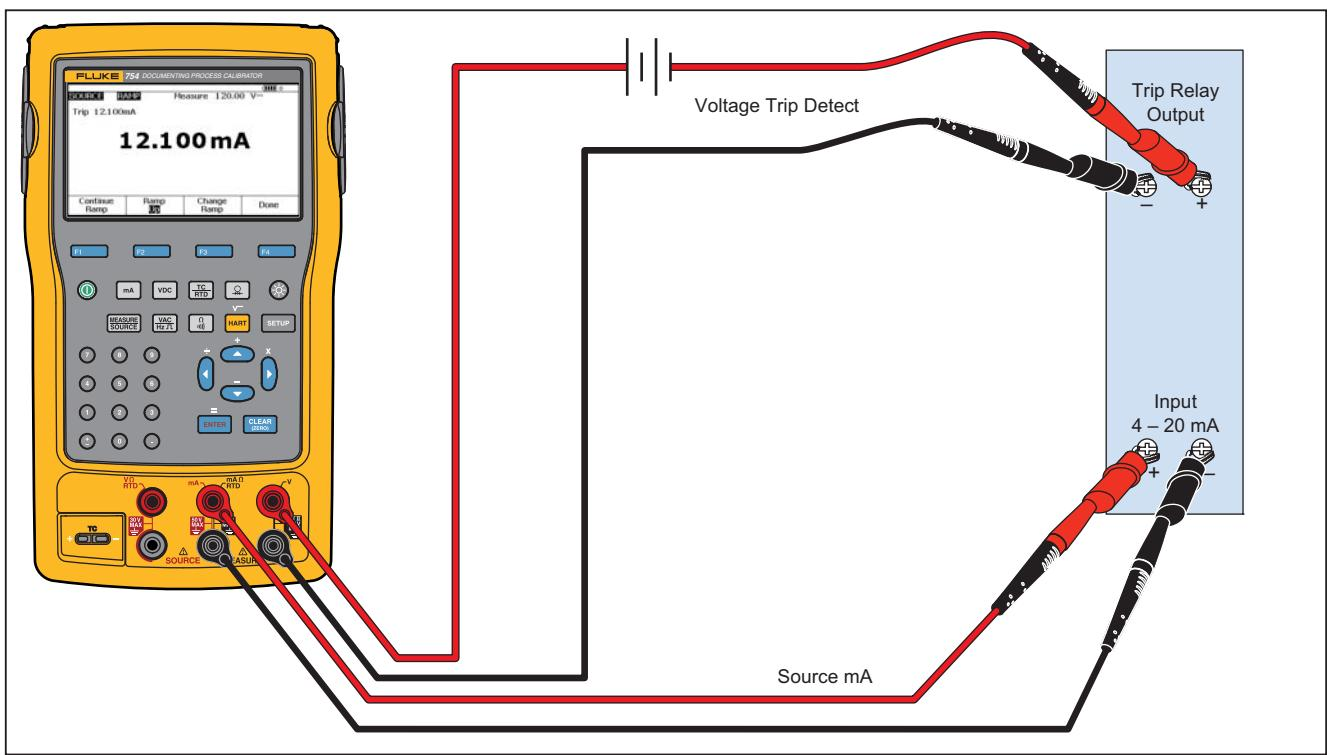

Figure 26. Check a Relay Output Trip Alarm
13. The Ramp function continues until a trip is sensed (if enabled), the ramp time expires, or the **Stop Ramp** softkey is pushed. See Figure 26.